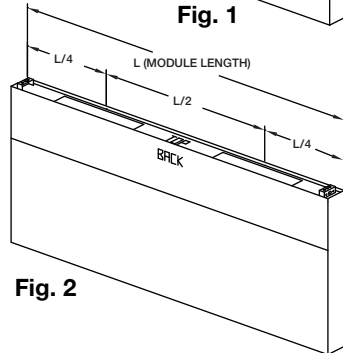

Fig. 2
3. If the back supply plenum is to have two openings, cut openings such that they are centered at  $L/4$  from each end of the plenum. (Fig. 2)